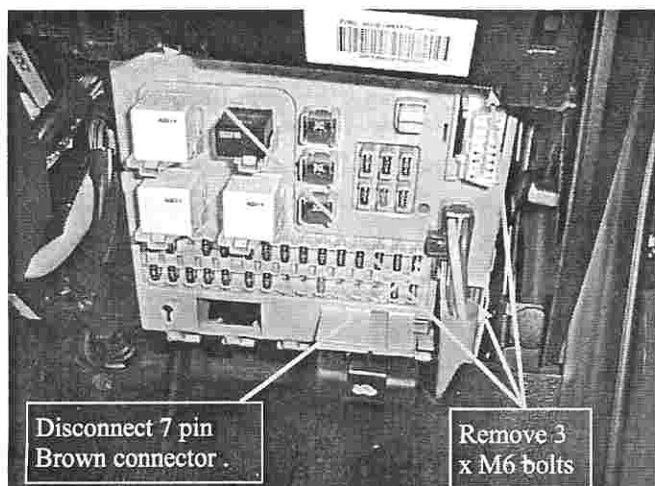

Fig 1. Location of M6 bolts securing the fuse panel. Disconnect 7 pin connector. Remove 3 x M6 bolts.
2. Disconnect the Brown 7 pin ignition power connector from the front of the fuse panel. Refer Fig 1
3. Locate and remove the three M6 bolts that secure the fuse panel to the lower dash panel. Refer Fig 1